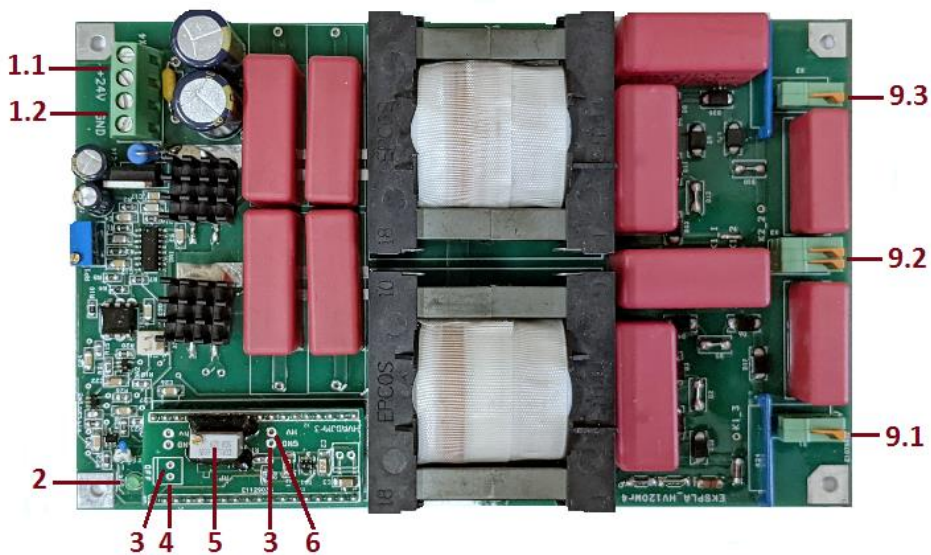

Figure 2. Top view of the HV power supply with potentiometer control
Set the output voltage using the potentiometer (**#5** in **Figure 2**). Ways to control of the output voltage:
2. Alternatively, measure the voltage between points **#3** and **#6** in **Figure 2**. The output is 1:1000 voltage divider.
The pins **#3** and **#4** in **Figure 2** can be used to turn off HV output. HV output is off if these pins are shorted together.
HV supply has on-board overheat protection. If temperature exceeds 50°C, HV supply automatically switches off; this is indicated by the LED (#2 in **Figure 2**), which will be off.